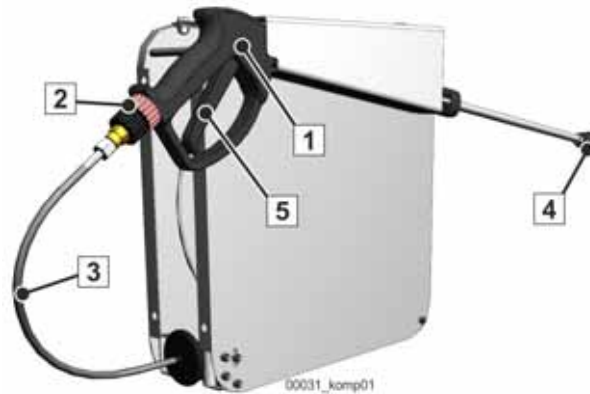

Fig. 560
- Make sure the spray lance trigger operates smoothly and resets on its own (5) (**Fig. 560**), and ensure that the pump shuts down automatically.